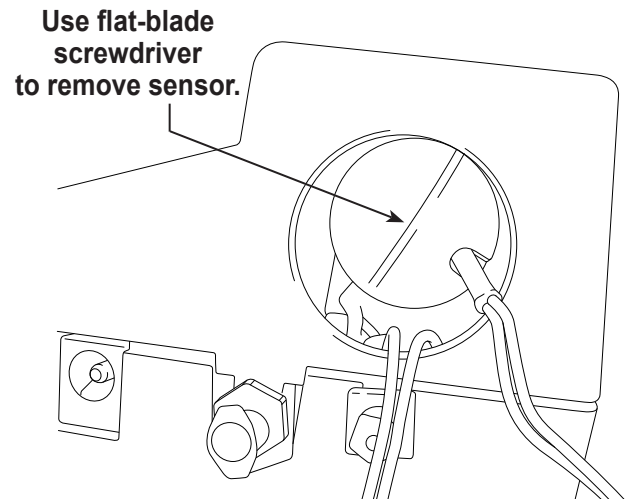

Figure 24
7. Move the cap and harness aside. Hold the lead from the sensor, and use a flat-blade screwdriver to unthread and remove the oxygen sensor. See Figure 24.